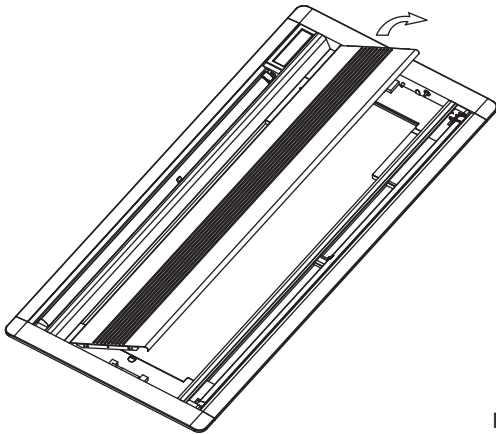

Fig.5-13
- The air-in side should face up when using a vacuum cleaner. (Refer to Fig.5-13)